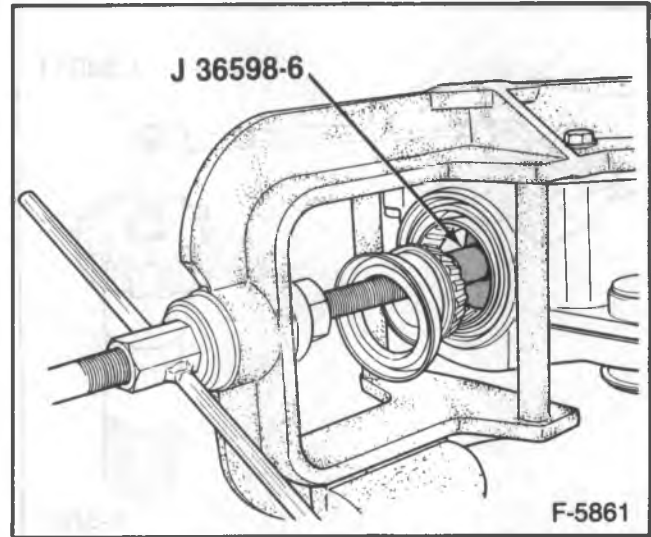
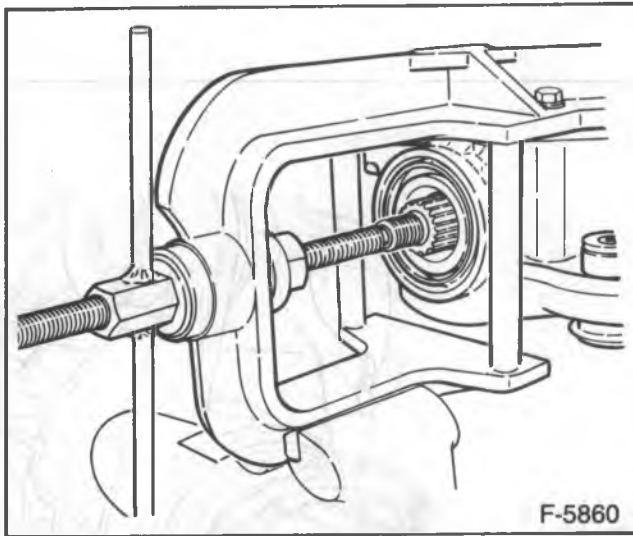
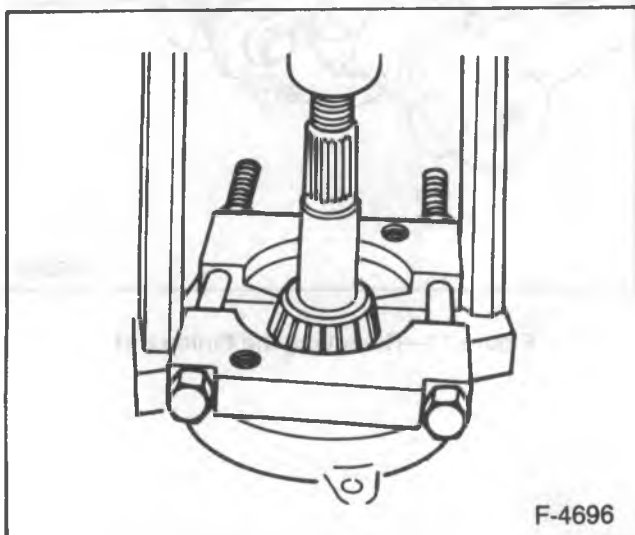

Figure 15—Removing the Outer Pinion Bearing and Seal
Figure 13—Removing the Pinion
Figure 14—Removing the Pinion Bearing
27. Pinion (37) with shim (38), bearing cone (39), and spacer (40). Use J 36598 (figure 13).
28. Spacer (40) from the pinion.
29. Pinion bearing (39). Use J 8612-B (K15-25 models) or J 36606 (K35 models) and a press (figure 14).
30. Shim (38).
31. Seal (42), and bearing cup and cone (41). Use J 36598 (figure 15).